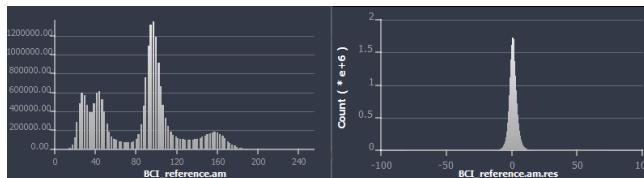

Figure 19.13: Histogram of the Reference Volume (left) and Residual (right)
- Click **Apply** for both (see result on Figure 19.13).